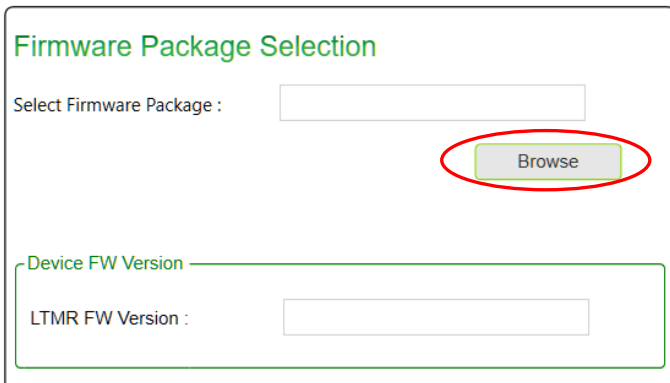
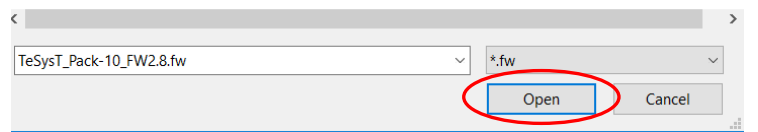

Figure 19
Figure 20
5. In the “Firmware Package Selection” field, click the “Browse” button, as in Figure 19, and navigate to the unzipped Tesys T firmware file, as in Figure 20. Open the file corresponding to the desired firmware, and verify that the correct version has appeared in the Device FW Version field, as in Figure 21.